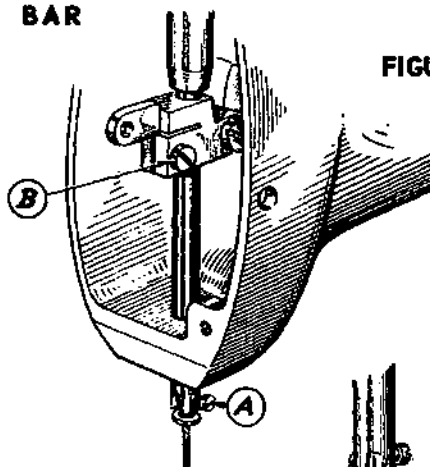

FIGURE 1
- 1 Insert new Needle full length of the Needle Bar hole and tighten Screw A (Fig.1)
Adjustment is made by means of Screw B (Figure 1).